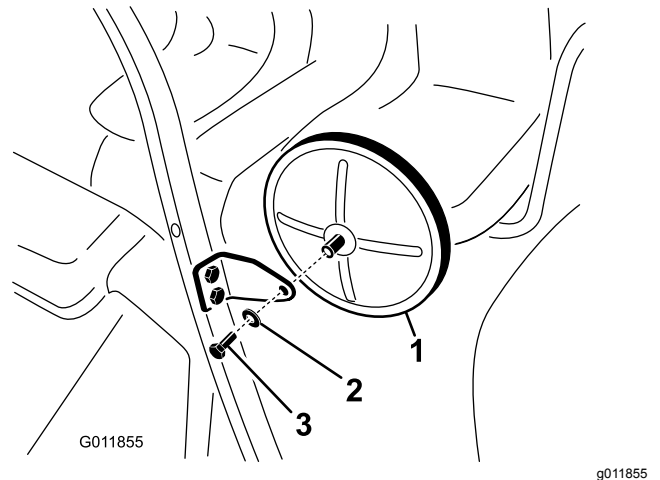

Figure 13
- Secure the mirror to the mirror mount using the supplied screw and washer (Figure 13).